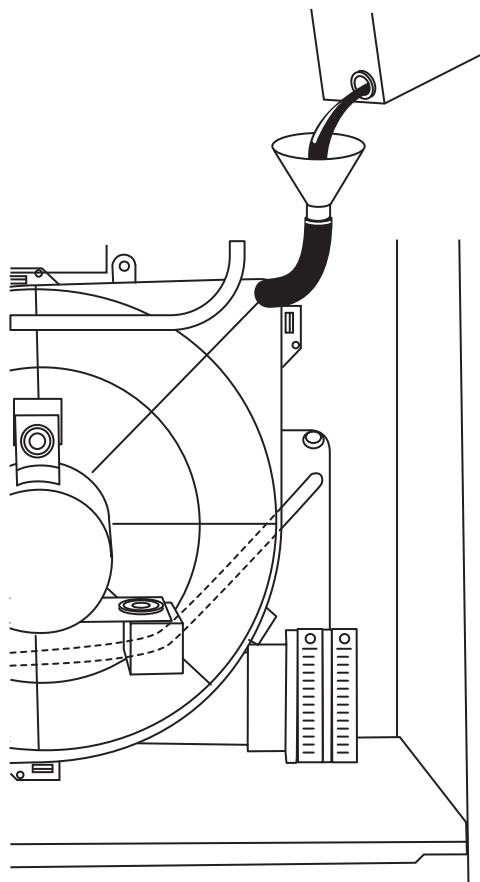

Fig. 39 - Antifreeze into Funnel / Tube
7. Pour 1 quart of antifreeze into funnel/tube. Antifreeze should run through inducer housing, overflow condensate trap, and flow into open field drain. See Fig. 39.